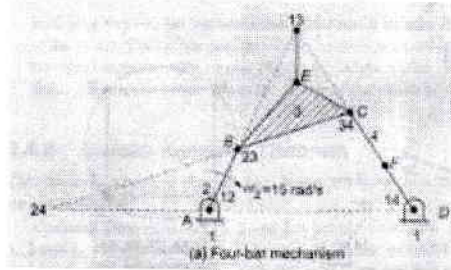
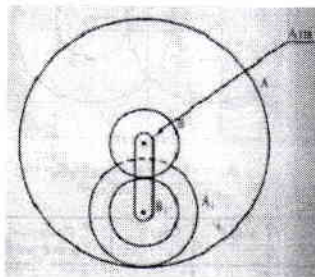

Fig. 2.8
Fig. 4.4
4. In a four bar mechanism shown in fig 4.4, link 2 is rotating at angular velocity  $\omega_2$ . locate all the instantaneous centers of the mechanism & find a) the angular speeds of link 3 & 4, the linear velocity of links 3 & 4, the linear velocities of points E & F as shown in the figure 2.8